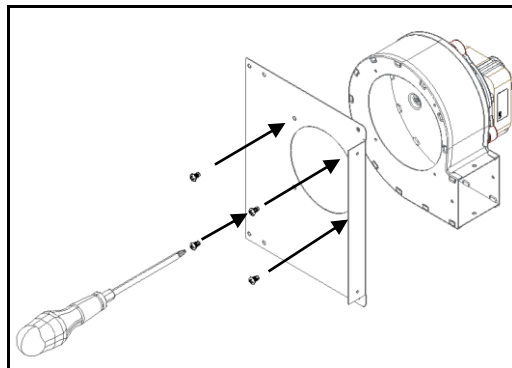

Figure 126 – Securing the support bracket to the ventilator
d) Remove the rear lid from the unit's chassis Figure 126, by cutting the identified areas using a pair of pliers (4).